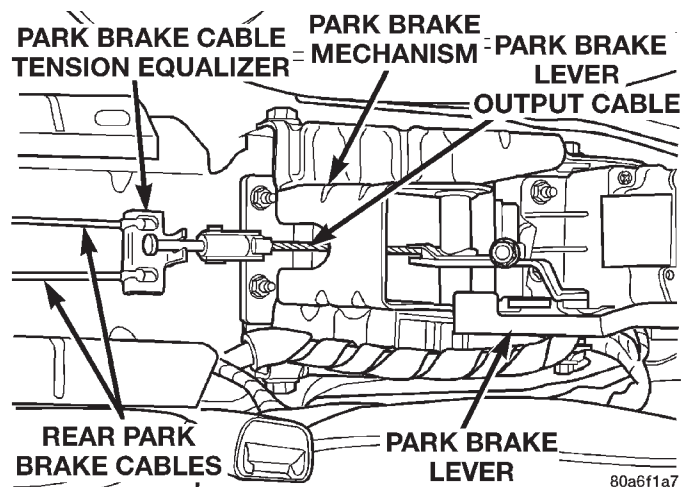

Fig. 192 Park Brake Cable Tension Equalizer
- (10) Remove the park brake cable tension equalizer from the park brake lever output cable and the rear park brake cables (Fig. 192).
- (11) Install a **NEW** park brake cable tension equalizer on the park brake lever output cable and rear park brake cables (Fig. 192).